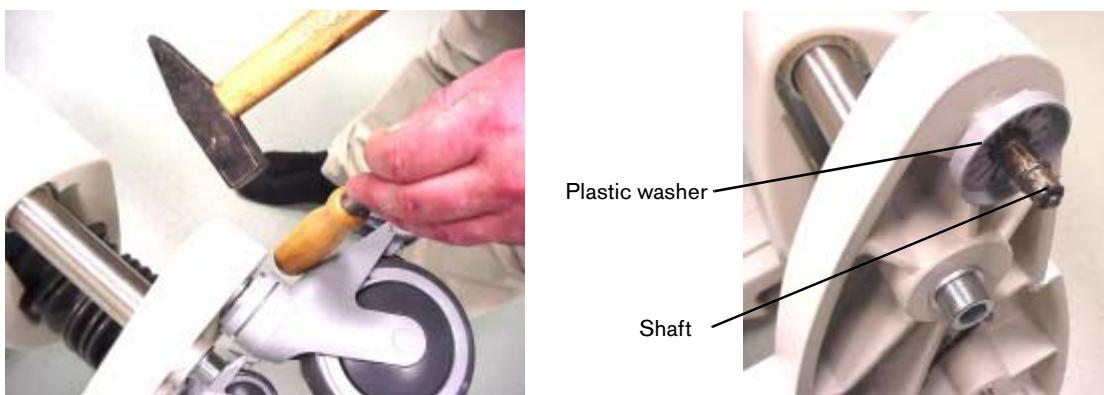

Fig.324 Trolley castor
4. Remove trolley castor, see Fig. 324.
10. Slide plastic washer onto shaft of trolley castor (Note: Pay attention to predominant direction of plastic washer, see Fig. 324.).